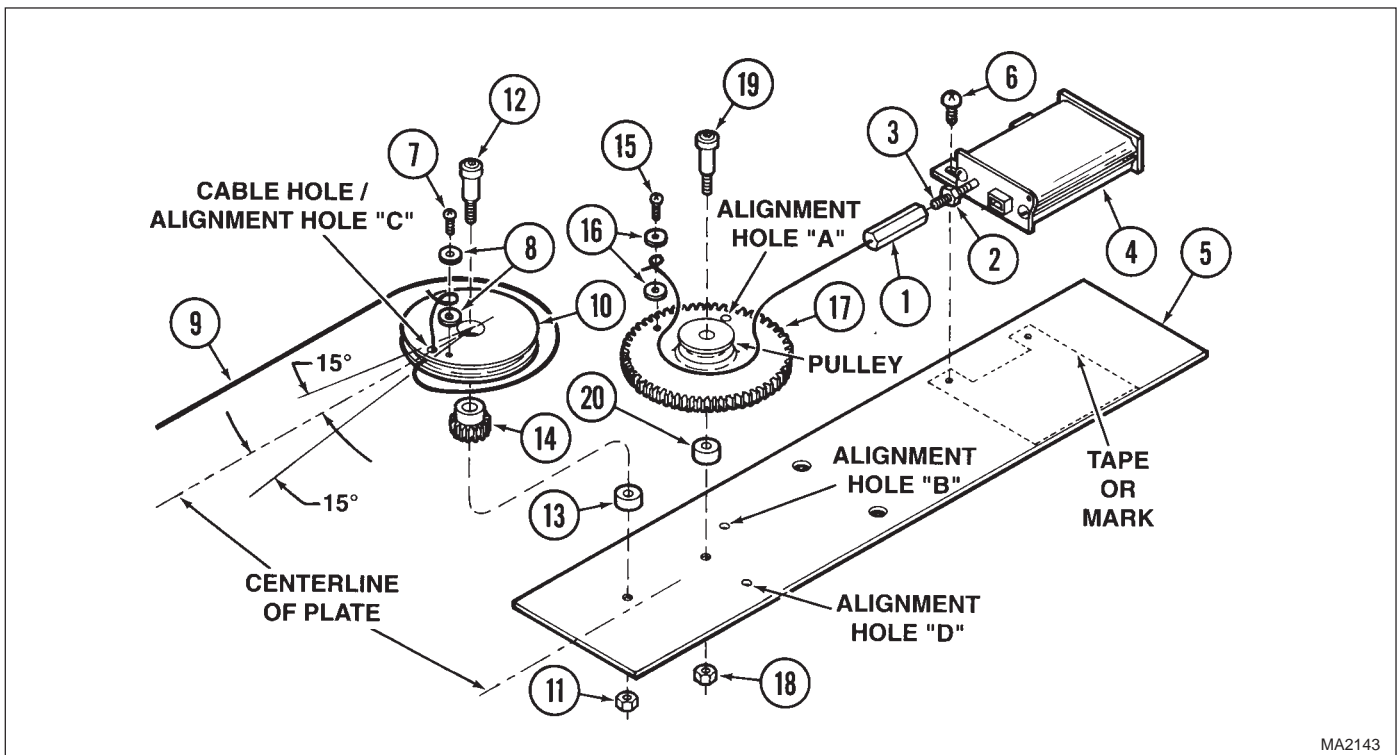

Figure 4-17. Base Reducer Disassembly / Assembly
- (1) While holding cable/turnbuckle assembly (1, Figure 4-17), loosen nut (2).
- (2) Unscrew cable/turnbuckle assembly (1) from transducer rod (3).
- (1) If replacing the base reducer plate (5, Figure 4-17), transfer the tape or marks for the base transducer to the new base reducer plate.
- (2) Install nylon spacer (20) and base output gear (17) on base reducer plate (5) and secure with shoulder screw (19) and nut (18).
- (3) If removed, coat mating surfaces of reducer pinion (14) and base capstan (10) with adhesive (Loctite RC 680).
- (4) Using a hammer, lightly tap reducer pinion (14) into base capstan (10).
- (5) Align Alignment Hole A in base output gear (17) with Alignment Hole B in base reducer plate (5).
- (6) Making sure the alignment achieved in the previous step remains the same, install nylon spacer (13), base capstan (10), and shoulder screw (12) on base reducer plate (5), making sure Alignment Hole C of base capstan is within 15° from the vertical centerline.
- (7) Secure base capstan (10) in position with nut (11).
- (8) If removed, position base transducer (4) on base reducer plate (5) and align the base transducer with the taping or marks made during removal. Secure the base transducer (4) in position with two screws (6).
- (9) Screw nut (2) onto transducer rod (3) fully until the threads run out.
- (10) Screw cable/turnbuckle assembly (1) onto transducer rod (3) until half of the transducer rod's threads are covered.
- (11) Install two washers (16) and screw (15) on base output gear (17). Do not tighten screw.